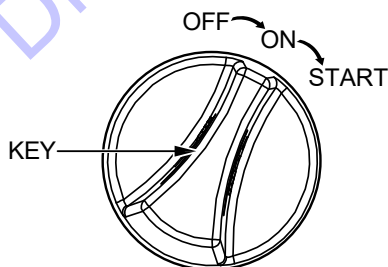
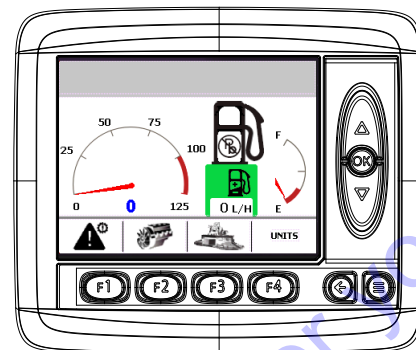

Figure 35. Ignition Key Switch
Figure 36. Digital Display (Main Screen)
2. Insert the **ignition key** into the **ignition switch** (Figure 35).
3. Turn the ignition key clockwise to the **ON** position (Figure 35). The **digital display** will turn on and the main screen (Figure 36) will appear on the display.